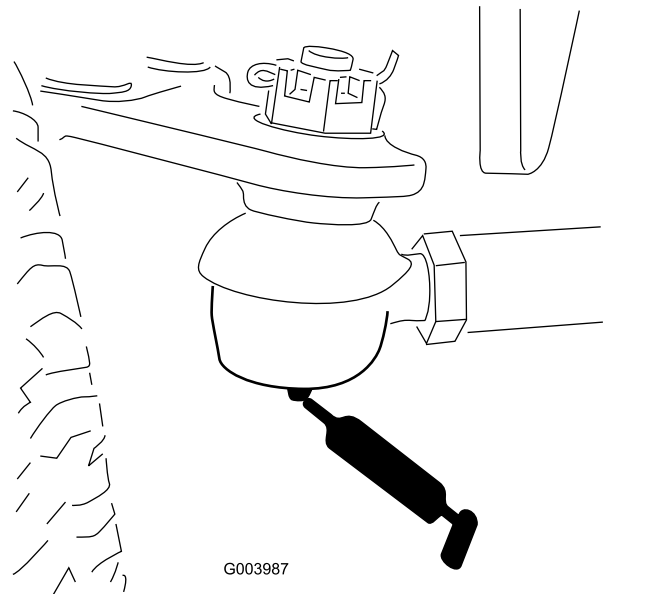

Figure 110
- Rear axle tie rod (2) (Figure 110)